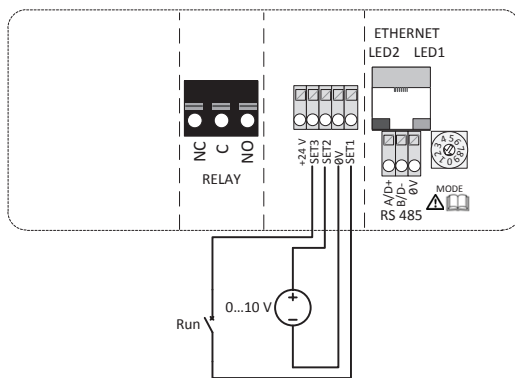

Fig 6
- 2.1. Wire make/break contact (switch) across "Set 3" and "Set 1" – Fig 6
- 2.2. Wire 0-10 Vdc "+" to "Set 2" terminal – Fig 6
- 2.3. Wire 0-10 Vdc "-" to "0V" terminal – Fig 6